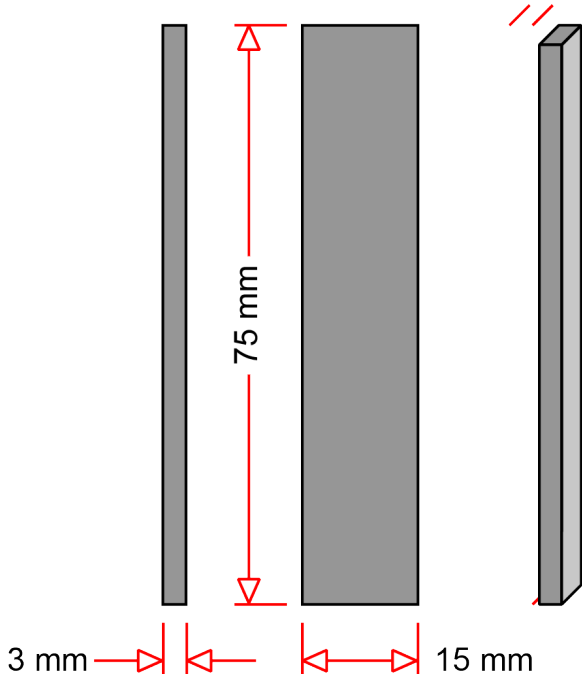

Figure 4-6: Ringseal Removal Tool Dimensions
- Step 4: With the collet and collet nut removed, the ringseal will now be exposed. Using a tool dimensioned in Figure 4-6, unscrew the ringseal from the collet sleeve.